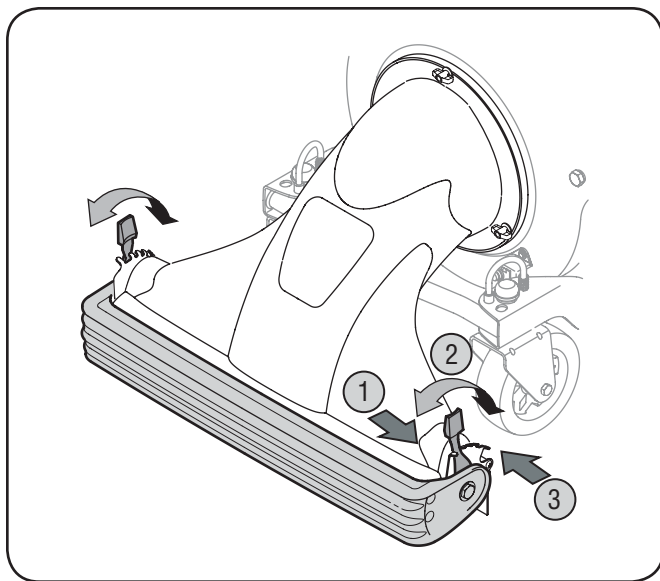

Figure 3-7
2. Slide the height adjustment lever forward or backward for adjusting the nozzle door upwards or downwards. See Fig. 3-7.